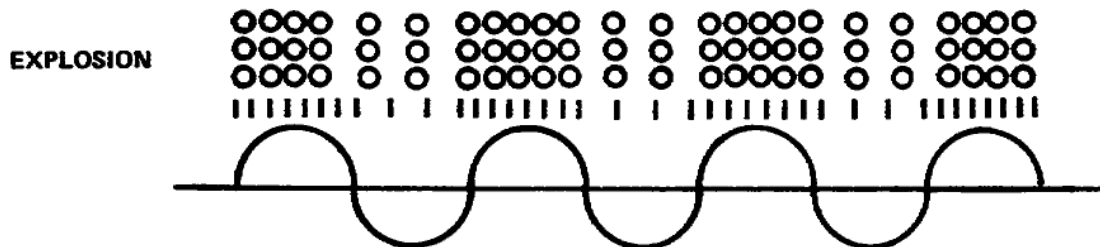

Figure 1-5. Rarefactions and compressions combine into a “sound wave”
e. Because of this, the term “sound waves” is used to describe the complex combination process of compression and rarefaction between colliding molecules in a medium (fig 1-5).